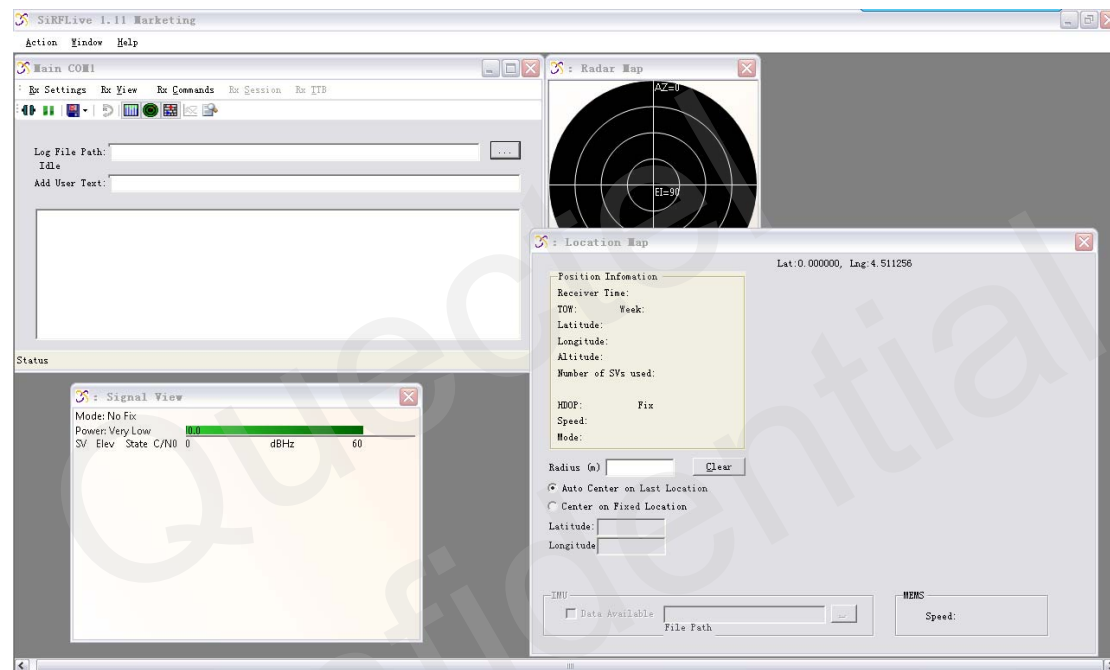

Figure 10: EVB and accessory equipments
The EVB and its accessories are equipped as shown in Figure 10.
1. After finishing assembling the EVB as figure 10, connect the RS232 to USB cable to PC, and power on the module, the LED GPS_TXD_DATA will be flash. The operation window of SiRFLive is shown below: